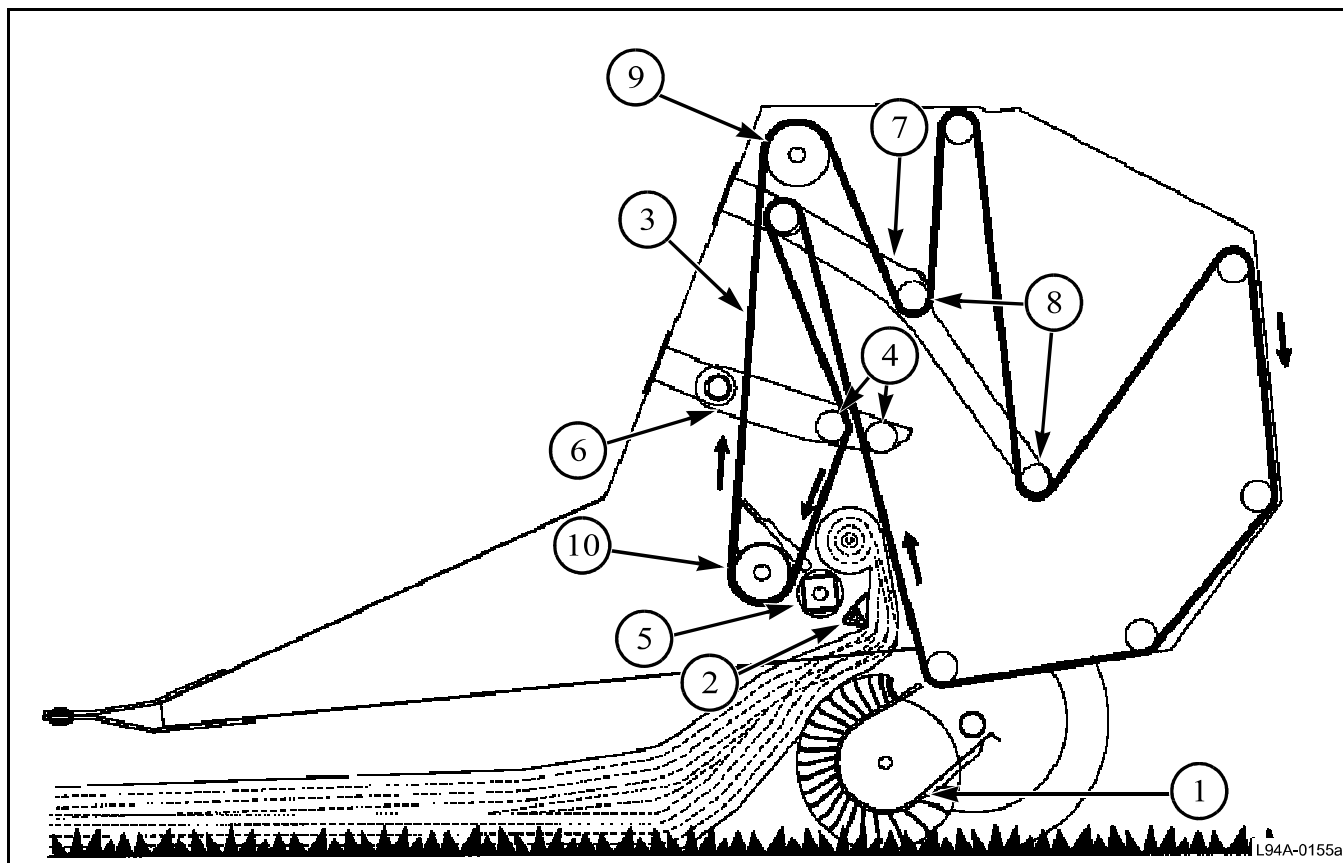

FIG. 2
FIG. 2: The illustration shows the windrowed crop being picked up. The crop moves across the pickup assembly (1) into the bottom of the open throat bale chamber. The crop rotates the filler plate (2) so the size of the throat opening is increased. In the bale chamber the crop contacts the rough top surface of the forming belts (3) which are moving upward. The forming belts carry the crop to the top of the starting chamber which is formed by the bale density rolls (4). The downward motion of the forming belts turn the crop downward against the starting roll (5). The starting roll folds the crop rearward into the crop coming in. The core is started and begins to roll. The rolling crop rotates the filler plate down so the filler plate helps support the core.